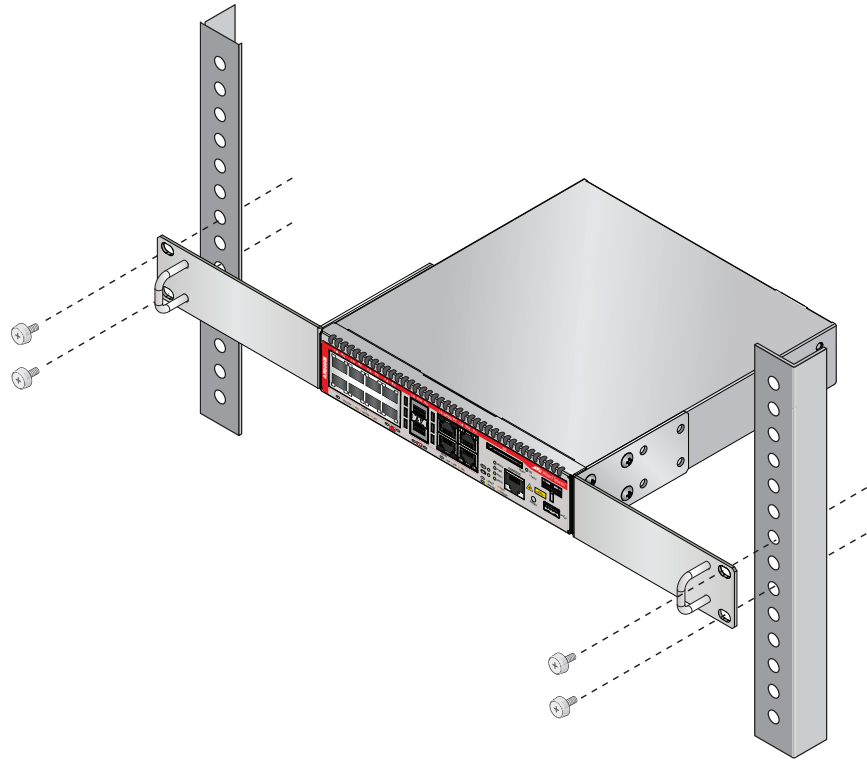

Figure 9. Mounting the router horizontally in an equipment rack
6. While another person holds the router in the equipment rack, secure it using standard equipment rack screws, as shown in Figure 9.